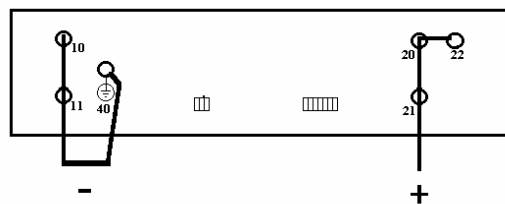

Figure 4. Output to case isolation voltage test.
4. Connect your isolation tester between output and case. See *Figure 4*. Raise the voltage of the isolation tester from 0 to 2000Vd.c. Check that the leakage current does not exceed 5µA. The voltage should not be applied for more than a few seconds or the Y-capacitors might be damaged.